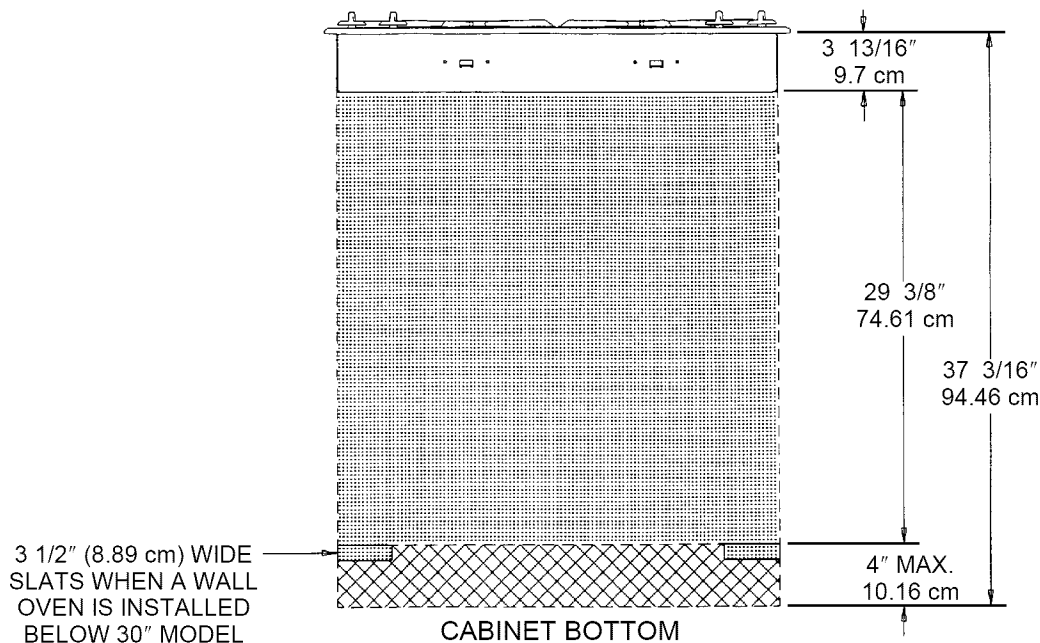

FIGURE 6
NOTE 1: This appliance and its gas and electrical supply sources must be installed before the wall oven is installed. See illustration (Electrical Wiring Information - page 7; figure 6) for recommended electrical supply source locations.
This appliance is equipped with a grounded type power cord. A grounded outlet must be provided. It is recommended, for convenience, the outlet be located (with reference to figure 6) as in A or B, below:
- If no other appliance is to be installed below this appliance: within either the shaded area or the cross hatched area shown in figure 6.
- within the cross hatched area of figure 6, or,
If a wall oven is to be installed below this appliance and the counter units outlet is to be mounted within the cross hatched area of figure 6: